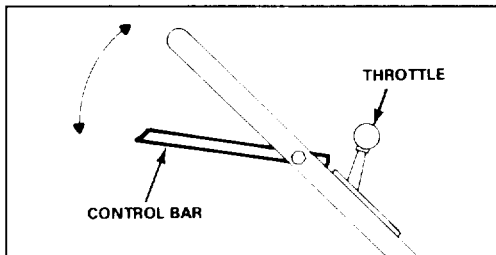
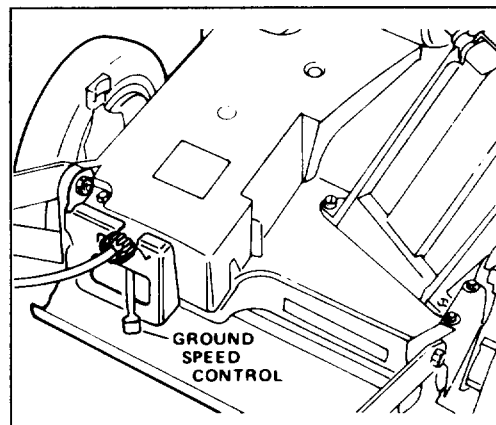

Figure 8
Figure 9
1. CONTROLS—Throttle control and control bar are on upper handle (Fig. 8). Ground speed control is located at rear of belt cover (Fig. 9). Fingertip starter is on engine.
3. STARTING—Move ground speed control to desired speed selection (Fig. 9) and throttle (Fig. 8) to CHOKE. Pull fingertip starter and regulate throttle as desired when engine starts. When temperature is near 40° F, a few extra pulls may be required because the engine needs priming.
4. TRACTION OPERATION—Squeeze control bar against handle to drive. Ground speed varies, depending on space between control bar and handle (Fig. 8).